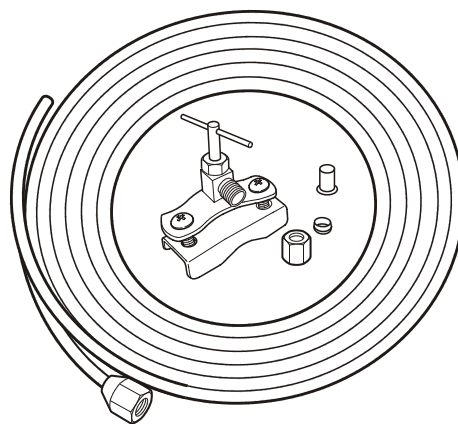

Figure 9
- Use a 1/4" OD copper line to connect the water supply to the solenoid valve. ***This is not supplied with the refrigerator (Figure 9).***